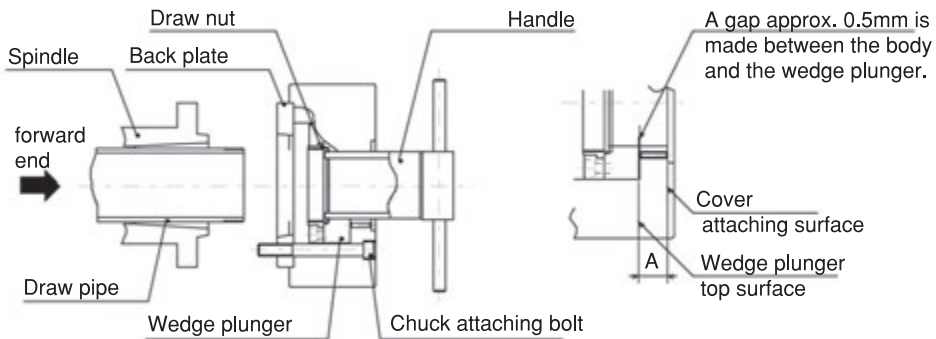

Fig.20
- The appropriate position of the wedge plunger at the cylinder forward end is the position when the dimension A in Fig.20 becomes as shown in the table below.